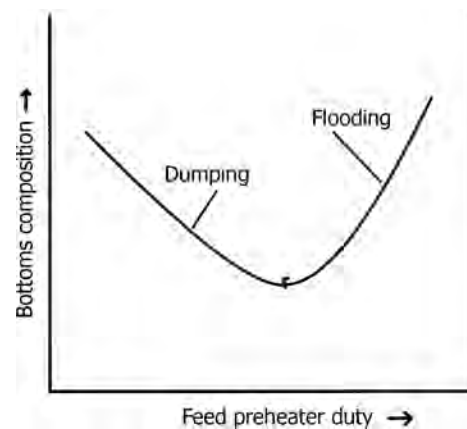

FIGURE 17.39 Feed preheater duty versus bottoms composition.
- Feed preheater duty versus bottoms composition (with respect to more volatile component) is shown in Figure 17.39.